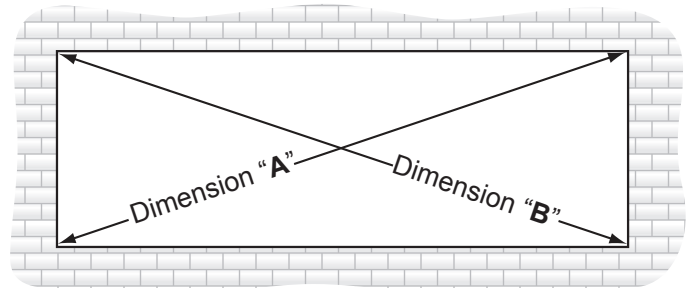

Fig. 24.1 Dimension "A" = "B"
A. Make sure the opening is square and plumb. Measure each diagonal of the opening. Units must be installed in a true rectangle. See **Fig. 24.1**